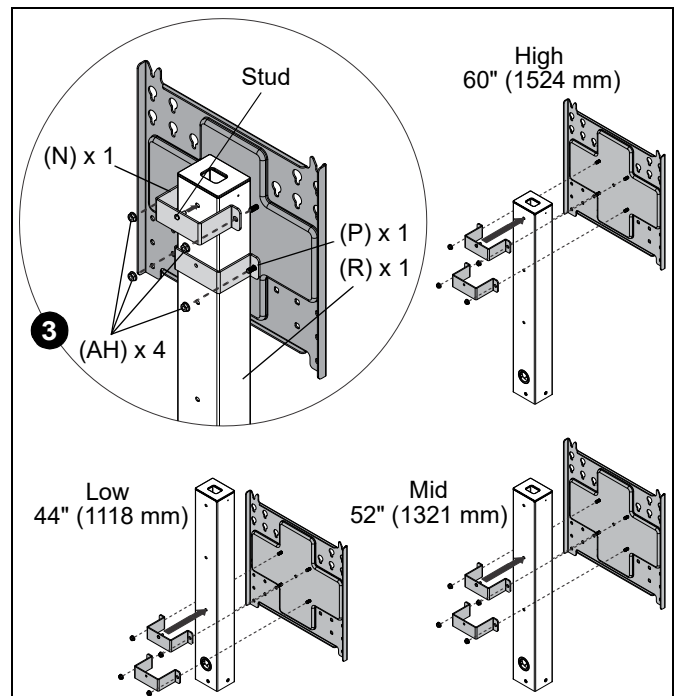

Figure 3
3. Install the face plate assembly (J) to the upper column (R) in one of three positions using one connector - stud (N), one connector - no stud (P), and four 5/16-18 flange nuts (AH). (See Figure 3)